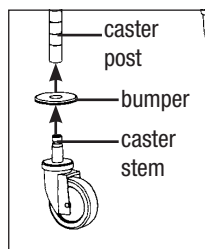

Figure 1c
- A. Place donut bumper onto bottom end of each post (see Figure 1c).